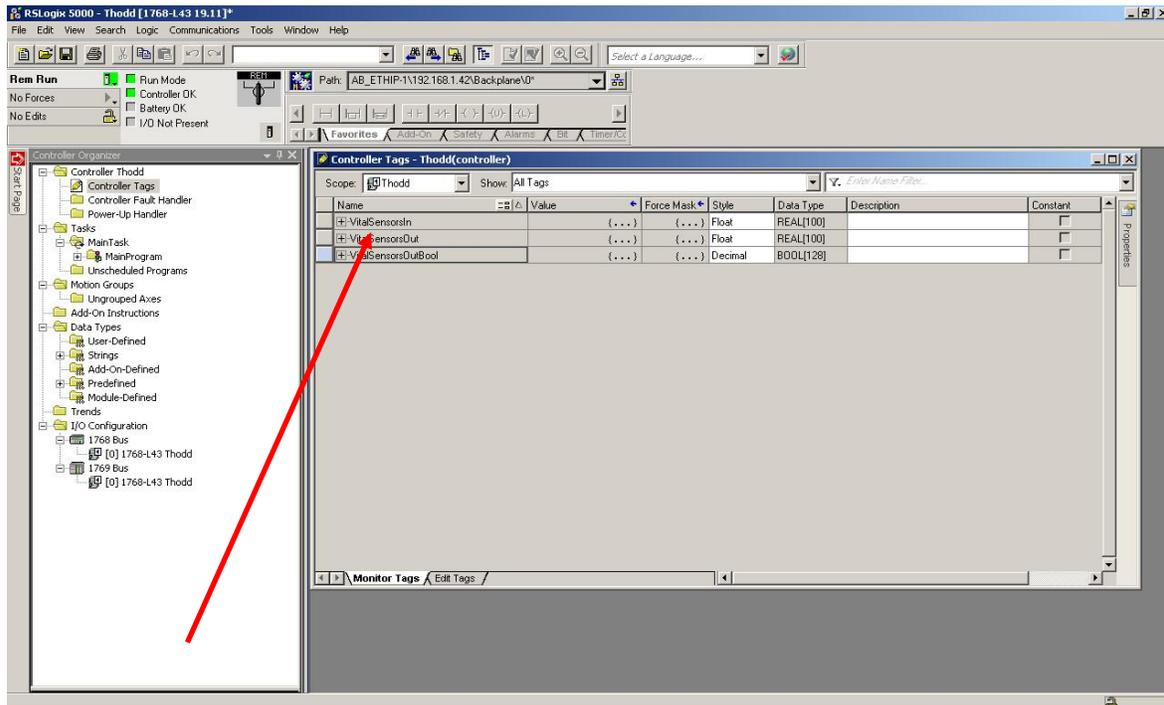

Fig. 10
10. Put PLC in run mode. See *Figure 10* Below.